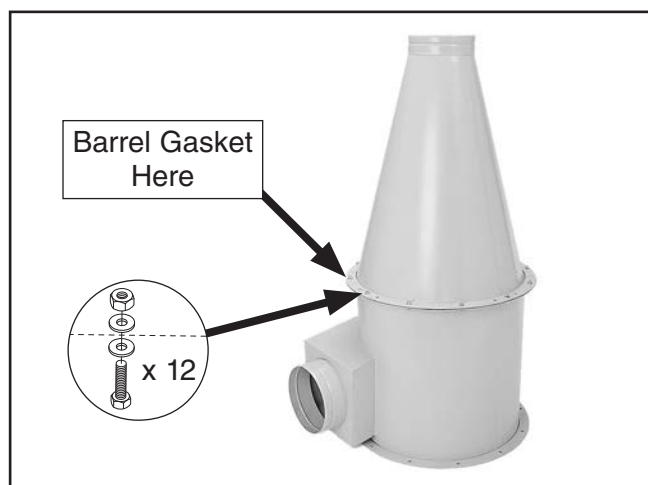

Figure 13. Cyclone funnel attached to intake barrel.
4. Attach the cyclone funnel to the intake barrel with a barrel gasket between them, as shown in **Figure 13**, with (12) $\frac{5}{16}$ "-18 x 1" hex bolts, (24) $\frac{5}{16}$ " flat washers, and (12) $\frac{5}{16}$ "-18 hex nuts.